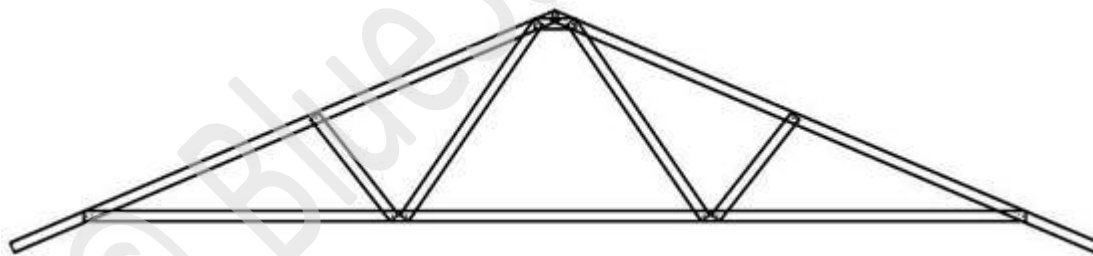

Figure 5.3 Standard 'A' Truss/ Dutch Gable Truss
5.1) Standard A-Truss: An A-framed truss supported at both ends by load bearing walls. It forms the main gable roof block (Refer to Figure 5.3).